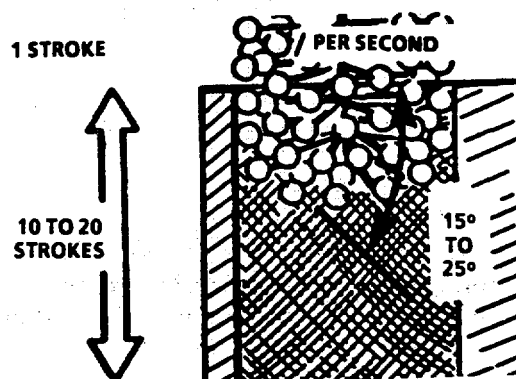

FIGURE 4-89. De-Glazing Bores.
- (1) Make vertical strokes, 1 stroke per second. Drill 300 to 400 RPM. The crosshatch angle is a function of fill speed and how fast the bore is moved vertically (FIGURE 4-89).
- (2) Inspect bore after 10 strokes. The degree of angle should be 15 ° to 25°.